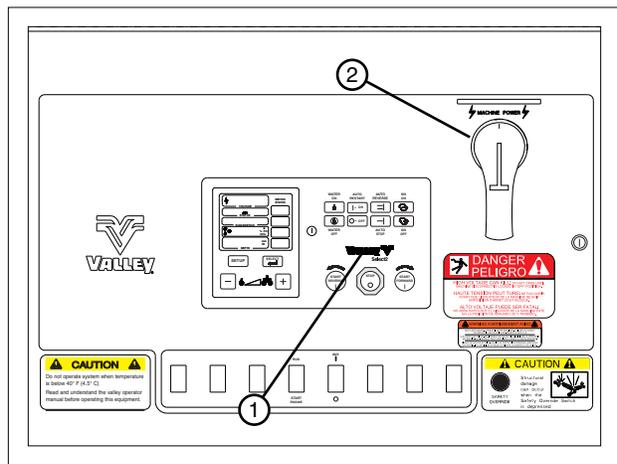

Figure 36-2 1. Start/Stop Switch
1. Place the START/STOP switch in the STOP position. See figure 36-2.
2. Turn the main disconnect switch to the OFF position. See figure 36-2.